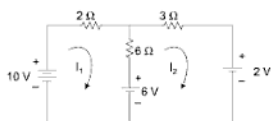

Fig. A1-41
- (a) Using loop current method, find the current I_1 and I_2 , shown in Fig. A1-41.